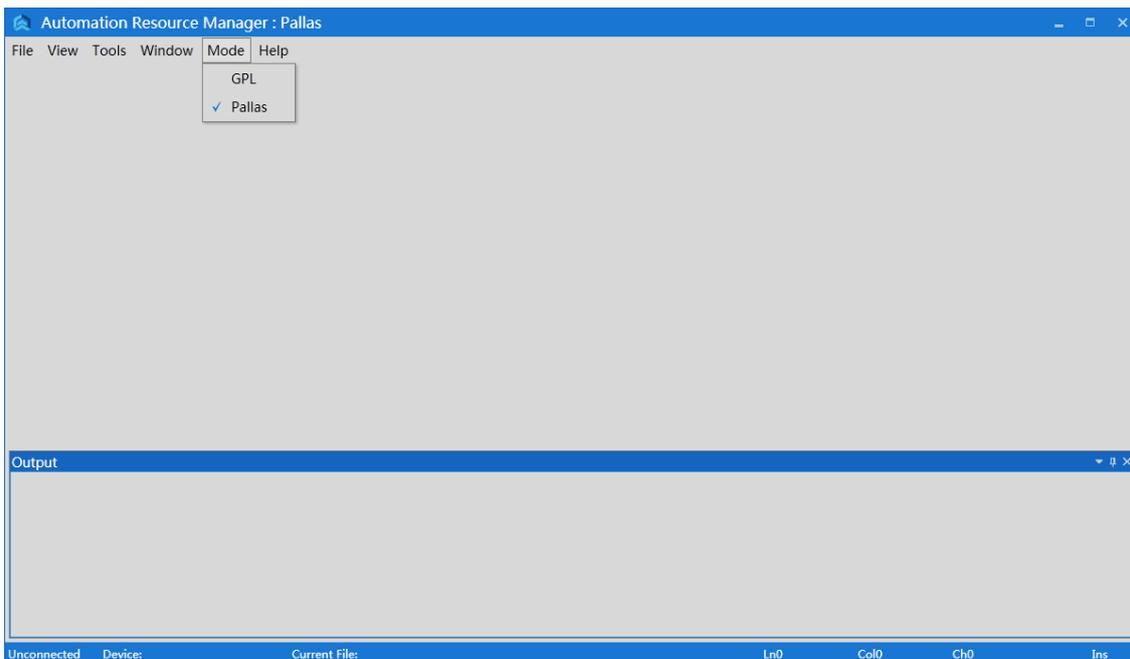

Figure 6-5 ARM interface
Step 1 Double-click the installed ARM to open the ARM interface, and then click <Mode> on the menu bar to switch to <Pallas> mode, as shown in Figure 6-5.